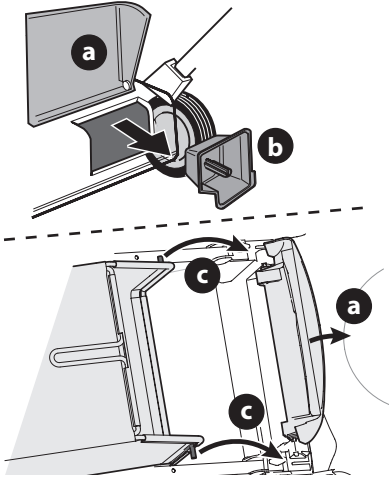

Figure 7
2. Follow steps below to attach grass catcher (Figure 7):